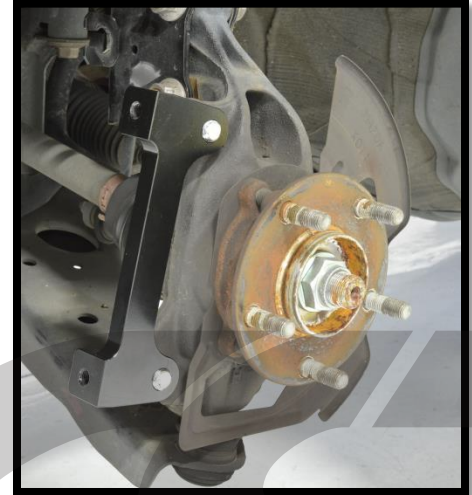

Figure 2e
- g) **Install the Bracket using the provided M14 Allen head bolts.** Make sure the flat side of the bracket is faced towards the rotor. Shown in **Figure 2e** with rotor removed to make this more visible. Tighten with a wrench and then torque to 64-71ft.lbs.